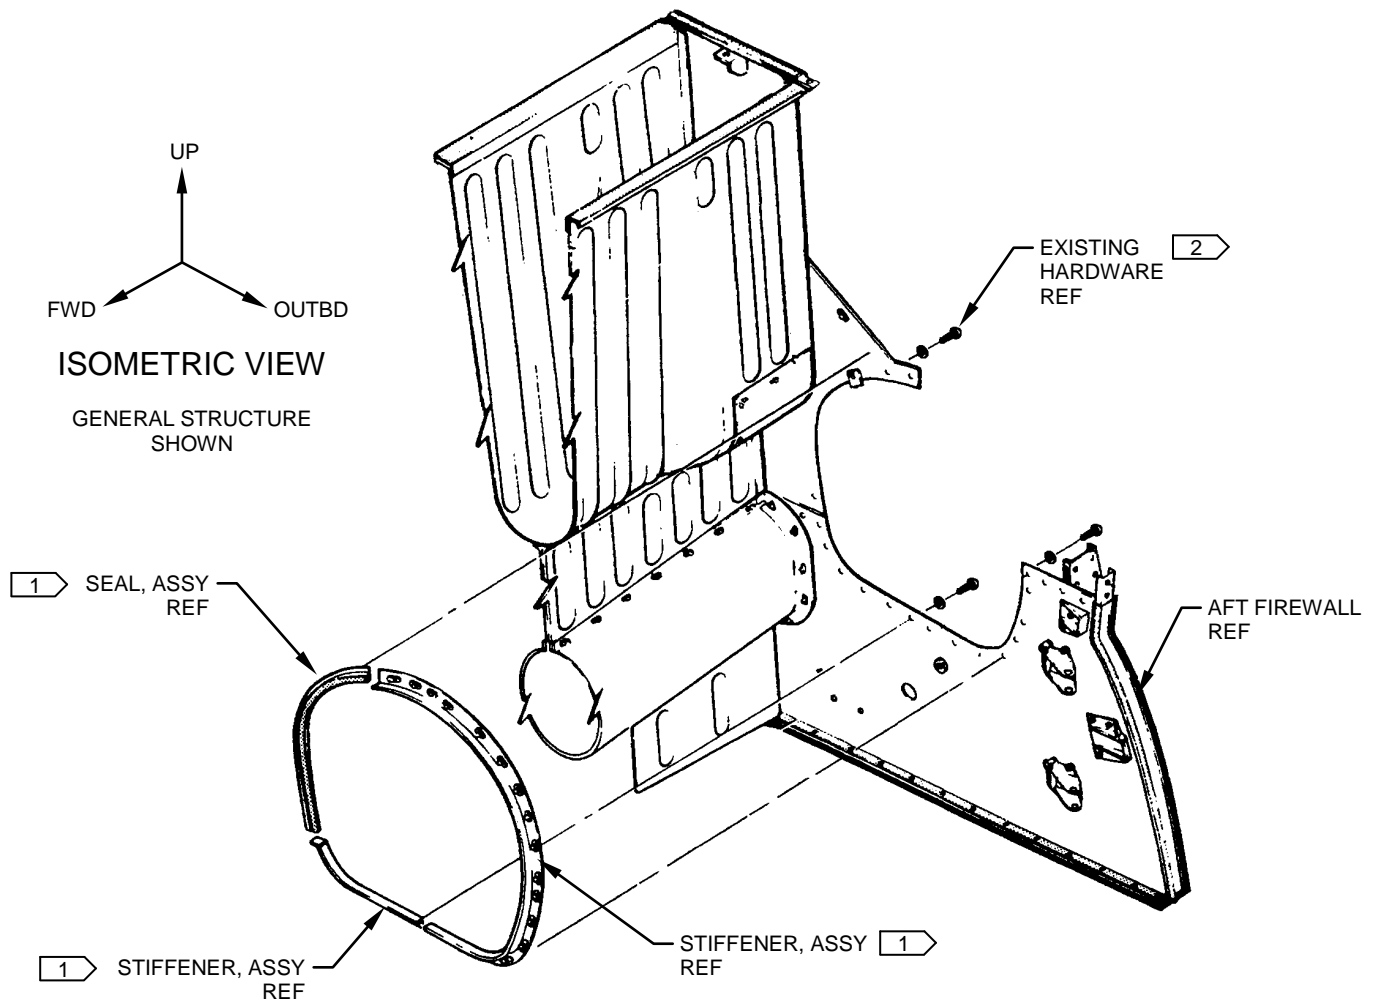

Figure 1
3. Temporarily remove the existing hardware common to the existing Stiffeners & Seals as shown. Reference Figure 1 and Pennant Note 2.
4. Remove and discard the existing individual Stiffeners & Seals, as required. Reference Figure 1 and Pennant Note 1.
5. Prepare the AFT Firewall by removing any foreign material, dirt, etc. and wipe the mating surfaces clean with methyl ethyl ketone (MEK). Reference Figure 1.